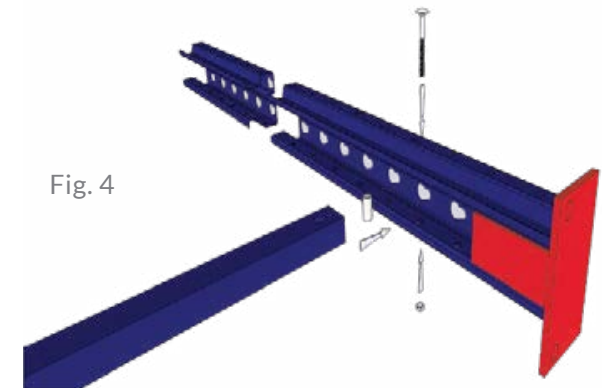

Fig. 4
Step 4 | Start by bolting horizontal brace to one post in position shown in the Brace Position Chart, according to size. Use spacer supplied. (Fig. 4) Starting at the bottom or foot end.